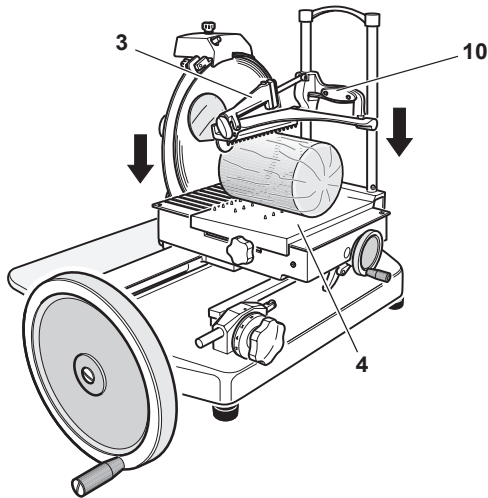

Figure 12-1
3. Position the food product to be sliced on the product holder (4).
4. Use the pusher vertical slide lever (10) to adjust the pusher (3) to hold product in place (Figure 12-1).